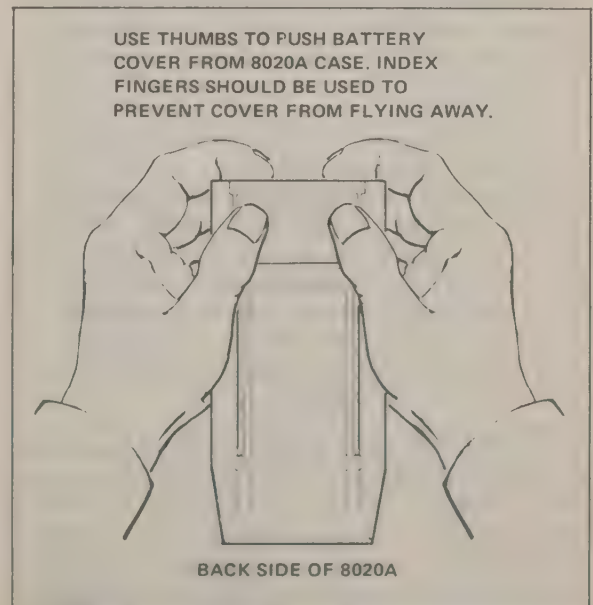

Figure 2-1. Recommended Method of Removing Battery Cover
- Open the battery compartment on the bottom of the 8020A using the method shown in Figure 2-1.